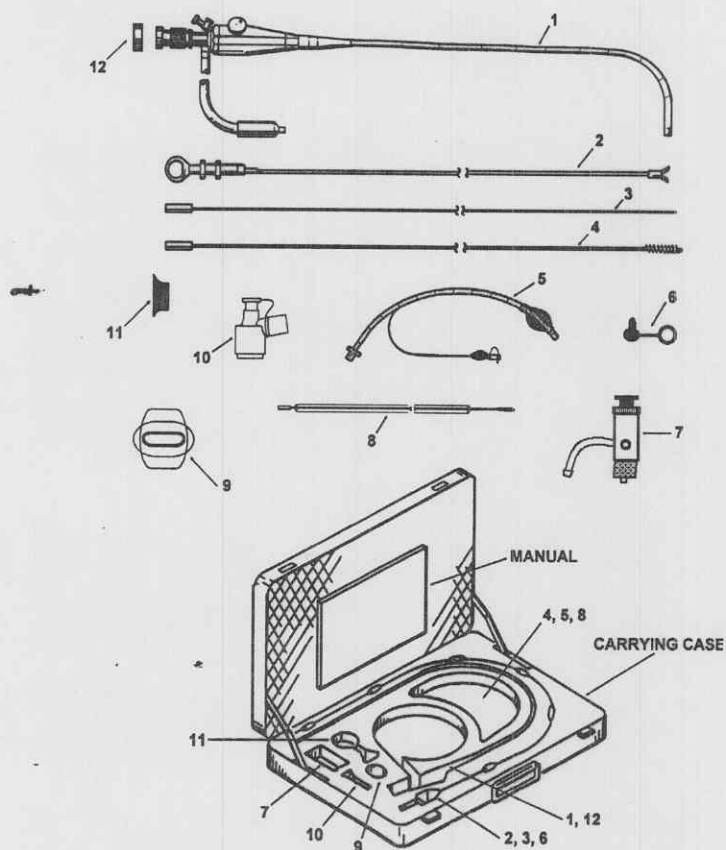

Figure 3-9. Components and accessories.
- h.* Repack the fiberoptic bronchoscope and all components and accessories into the case. Refer to figure 3-9 for placement of components and accessories.